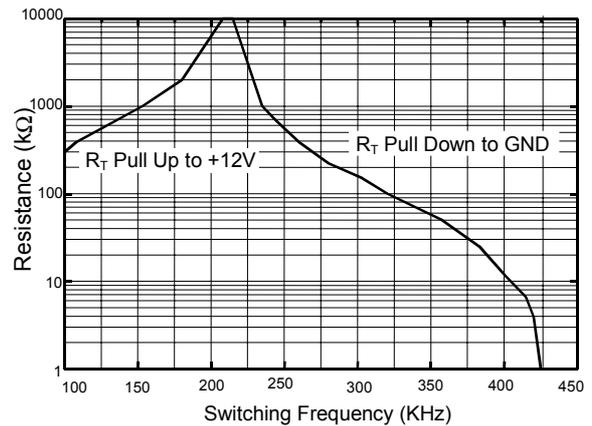

FIG. 3 RT Resistance VS. Frequency
- Pin 10: RT: Frequency adjustment pin. Connecting a resistor (RT) from this pin to GND, increasing the frequency. Connecting a resistor (RT) from this pin to VCC, decreasing the frequency by the following figure (Fig.3).